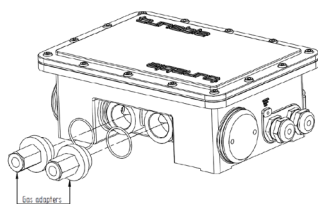

Figure 16 Analyser module with gas adapters and O-rings
- 3) Use a 22 mm spanner or pipe to remove the gas adapters as shown in Figure 16.